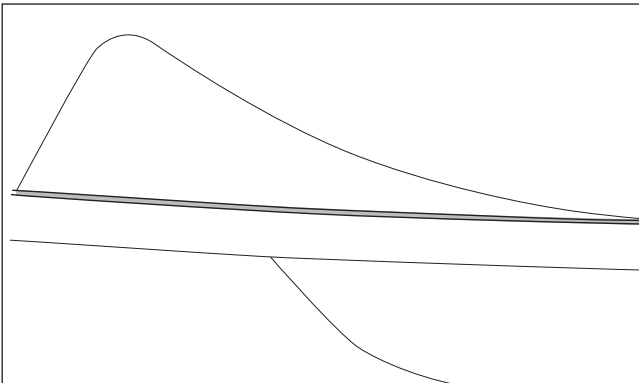
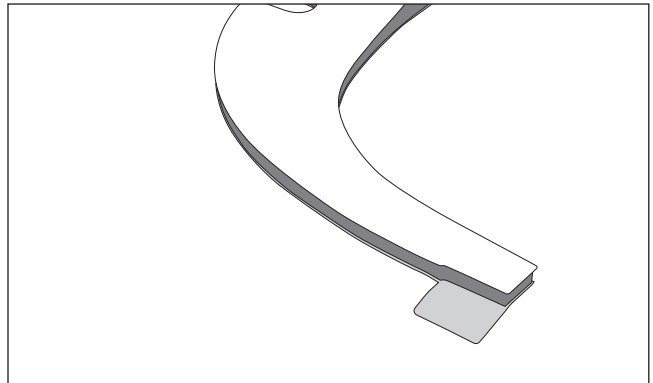

Figure 39
Figure 40
1. Clean the backside of the Lamp Bezels with alcohol. Apply supplied double-sided foam tape to the Lamp Bezel using the appropriate thickness for approximately 1/16" past the bezel trim edge, some stacking of tape may be required (fig. 39). Apply white side down. Leave tabs on the blue backing in place (fig. 40).